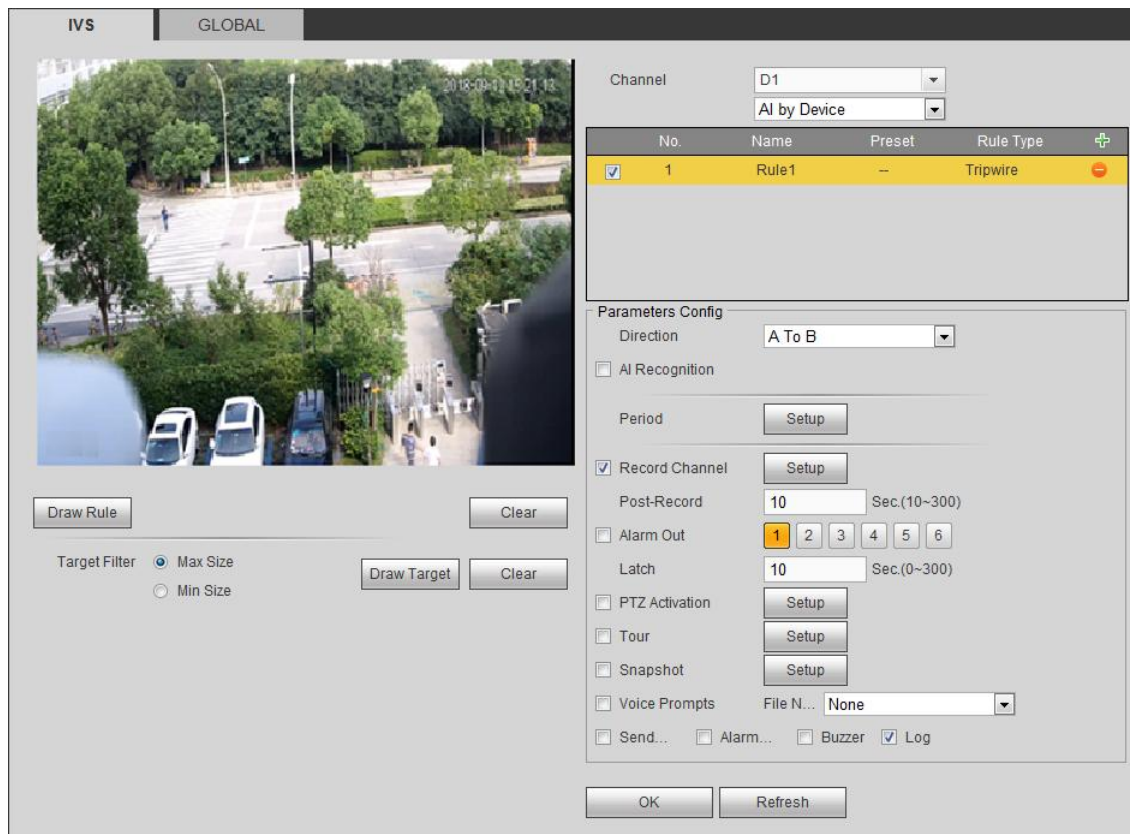

Figure 5-67
Step 4 Click  and select the corresponding rule type according to the actual needs. See Figure 5-67.